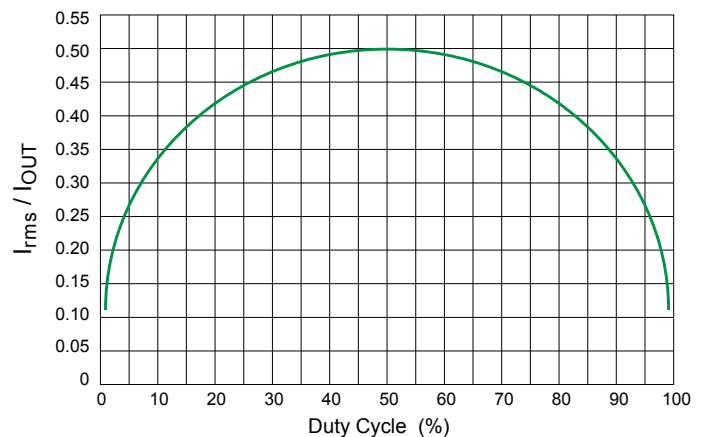

Figure 18: Input Capacitor Ripple versus Duty Cycle
Figure 18 shows the normalized input capacitor rms current versus duty cycle. To use this graph, simply find the operational duty cycle (D) on the x-axis and determine the input/output current multiplier on the y-axis. For example, at a 20% duty cycle, the input/output current multiplier is 0.40. Therefore, if the regulator is delivering 2.5 A of steady-state load current, the input capacitor(s) must support 0.40×2.5 A, or 1.0 A_{rms}.